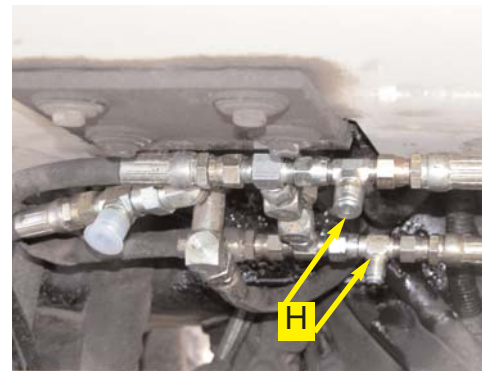

Figure 5b. Installed run tees.
- b. Install the provided run-tees (**H**) in the steering lines as shown. (Figure 5b.)